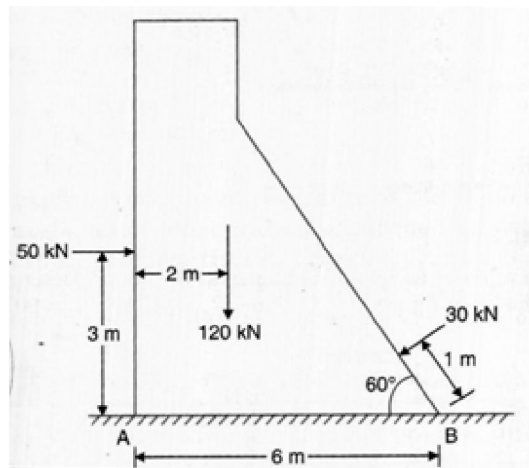

Fig.2
- 10 Determine the resultant of the three forces acting on the dam section shown in Fig.2 and locate its intersection with the base AB. For a safe design this intersection should be within the middle third. Is it a safe design? (10)